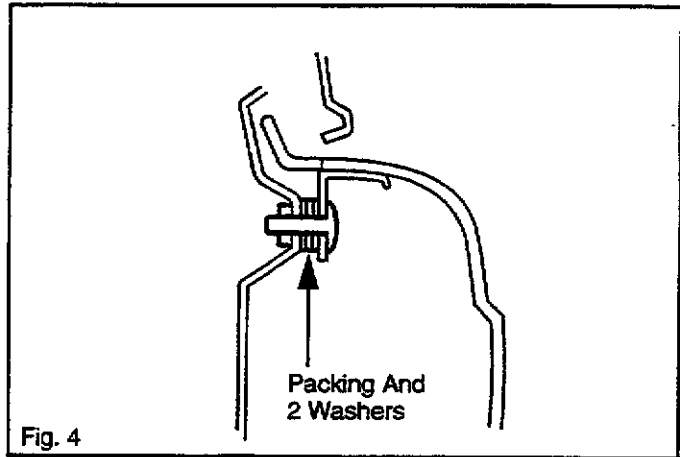

Fig. 4
- Install packing and two (2) washers (see Parts Information) on each of the retaining bracket studs. Refer to Fig. 4.